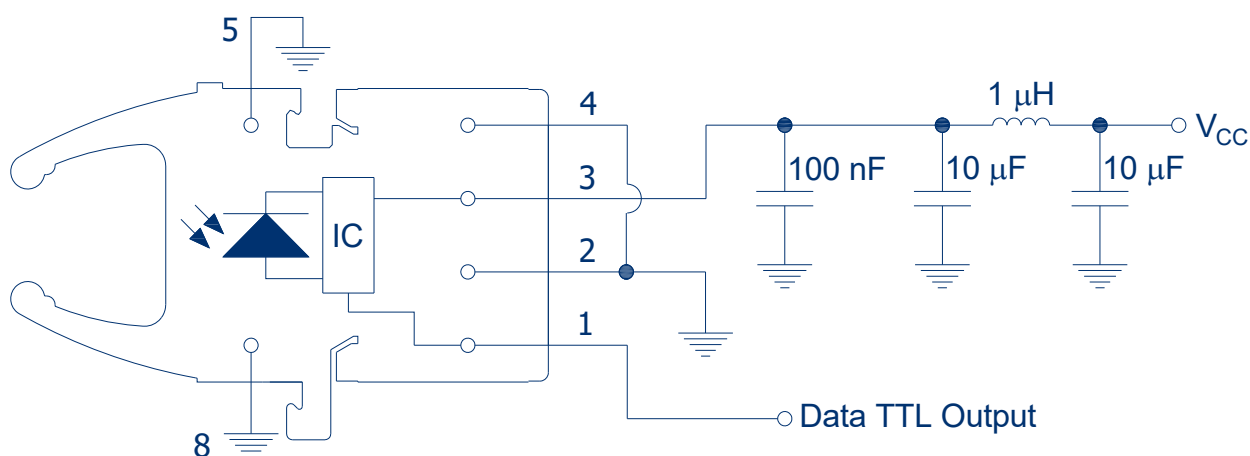

FIGURE 2 RedLink® receiver application circuit
- a) Pin 4 is electrically isolated internally. Pin 4 may be externally connected to pin 1 for board layout compatibility with existing designs. Otherwise, it is recommended pin 4 be grounded as in Figure 2.
The power line filter in Figure 2 (two 10 µF capacitors and 1 µH inductor) is to protect against power line noise from other components on the same Vcc track. If several RedLinks® are placed in close proximity, then this filter arrangement is only required to be placed once. Each individual part should have a 100 nF capacitor located on the power supply as close to the Vcc pin as possible